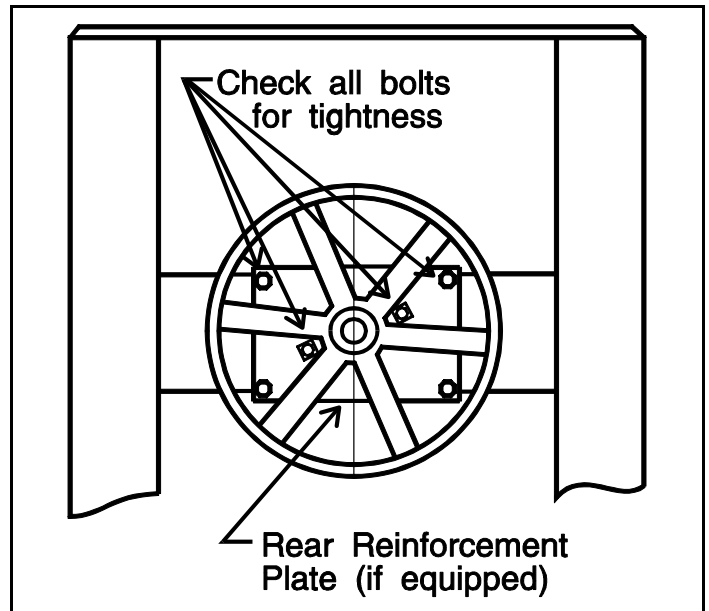
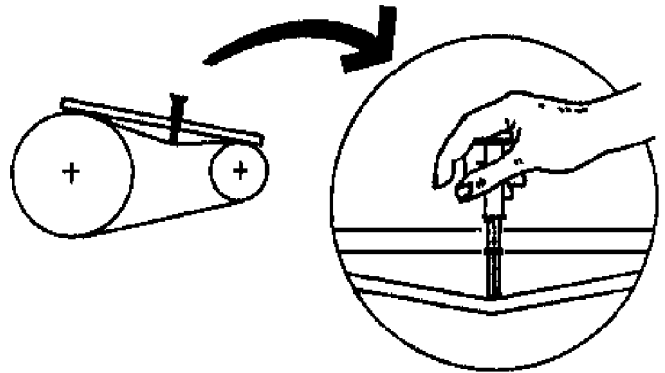

FIGURE 1 (MSSM0705CE)
FIGURE 3 (MSSM0706BE)
Check the main bearing support bolts for tightness as shown in FIGURE 1.
Check belt tension (FIGURE 3) when replacing and adjusting drive train components. Belt tension testing tool (Milnor[®] part number 30T001), straight edge, and Belt Tension Tables are required when setting belt tensions. **Do not refer to instruction sheet provided with tension testing tool.** Check tensions for new belts according to the following schedule:
2. Determine deflection for the tested belt (see FIGURES 1 and 2 for the belt location and Tables A and B for the setting range). Move lower O-ring to the correct setting (inches or centimeters) on scale. Read the bottom edge of the O-ring.
3. Place a straight edge along the top edge (pulley to pulley) of the belt to be tested (FIGURES 1 and 2). Depress the tension testing tool by sliding the cap against the middle of the belt span until the bottom edge of the lower O-ring aligns with the straight edge as shown in FIGURE 3.